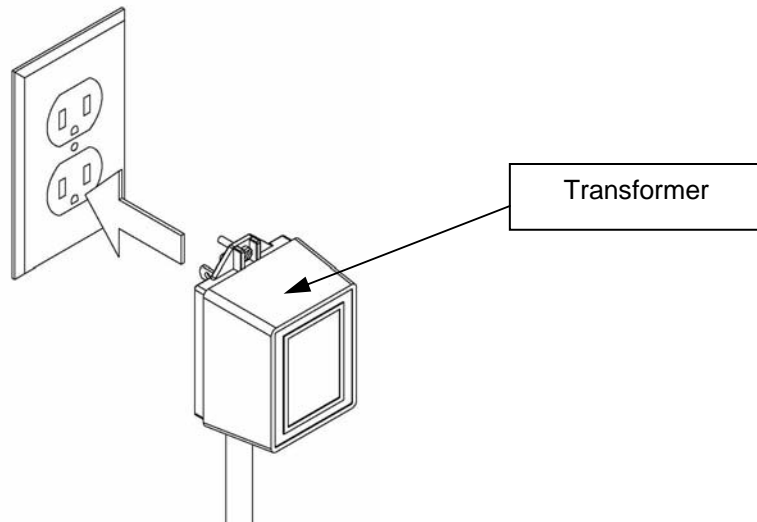

Figure 108
Step 7: Plug in the Transformer that powers the Accessory Module, as well as its components. This is shown in Figure 108.